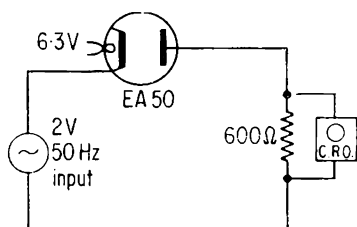

Fig. 182
One of the most common uses of a thermionic diode is illustrated in Fig. 182. Here the diode is used to allow electrons to flow through a resistor (load) in one direction although the supply is alternating current.
- (i) Use an EA50 diode N_{156} in the circuit of Fig. 182 to investigate the waveform of the voltage across a 600 ohm resistor. Compare this with the input voltage.